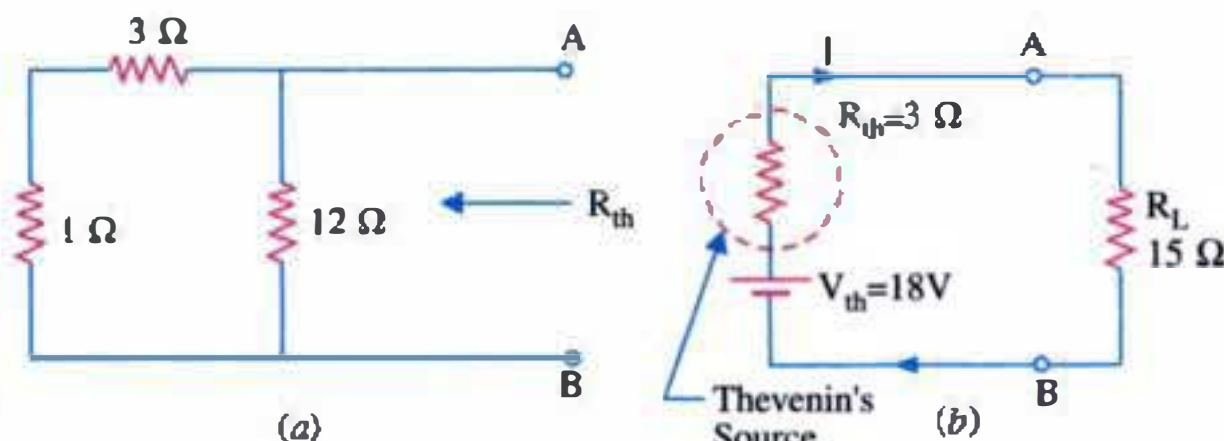

Fig. 4.9
3. Third Step. Now, remove the 24 V battery leaving behind its internal resistance of $1\ \Omega$ as shown in Fig. 4.9 (a).
Consequently, as seen from points A and B , the given network can be reduced to a single voltage source (called Thevenin's source) of 18 V whose internal resistance R_{th} equals $3\ \Omega$ [Fig. 4.9 (b)].
4. Fourth step. Finally, connect back the load resistor to the terminals A and B thereby giving a simple series circuit shown in Fig. 4.9 (b). Finding current I through R_L should be no problem now.